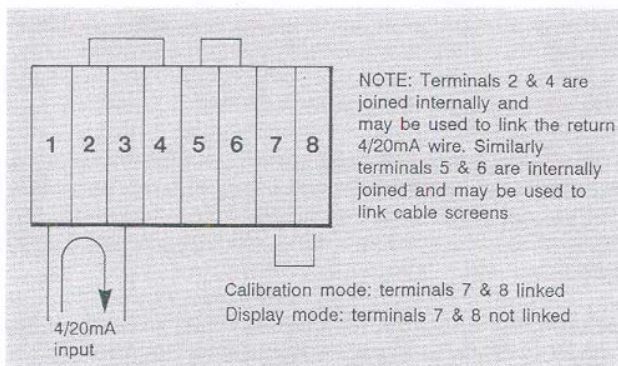

Fig 6 Terminal connections
- Connect the loop wiring to the terminal block as shown in Figure 6. To ease installation the rear terminal block can be removed from the instrument by gently pulling.